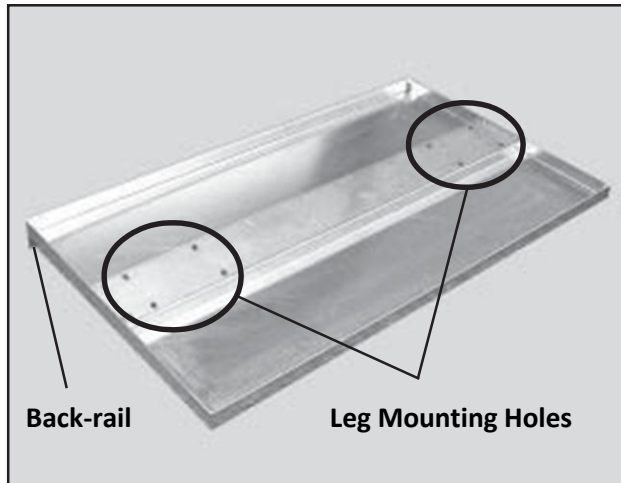

Figure 2-2
1. Place the table top assembly, up-side-down, on the floor. (Figure 2-2).